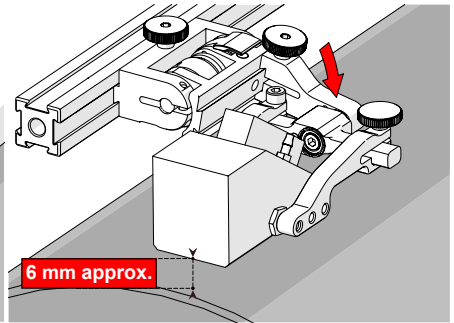

Fig. 43 - Lower to scanning surface
2. Push the probe holder yoke down toward the inspection surface until the wedge is approximately 6 mm ($\frac{1}{4}$ in) above the inspection surface (Fig. 43).